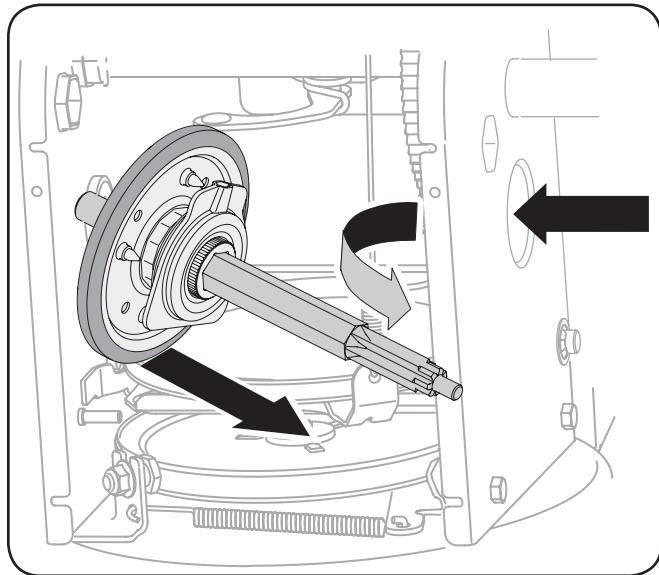

Fig. 7-11
- Carefully position the hex shaft downward and to the left before carefully sliding the friction wheel assembly off the shaft. See Fig. 7-11.